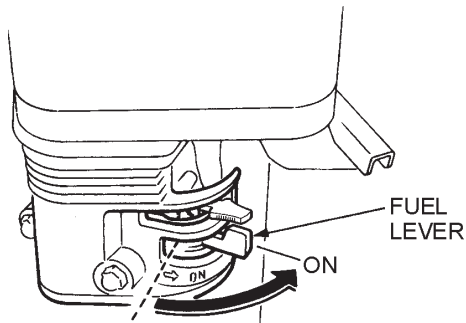

Figure 7. Engine Fuel Valve Lever (ON Position)
1. Place the engine **fuel valve lever** (Figure 7) to the **ON** position.